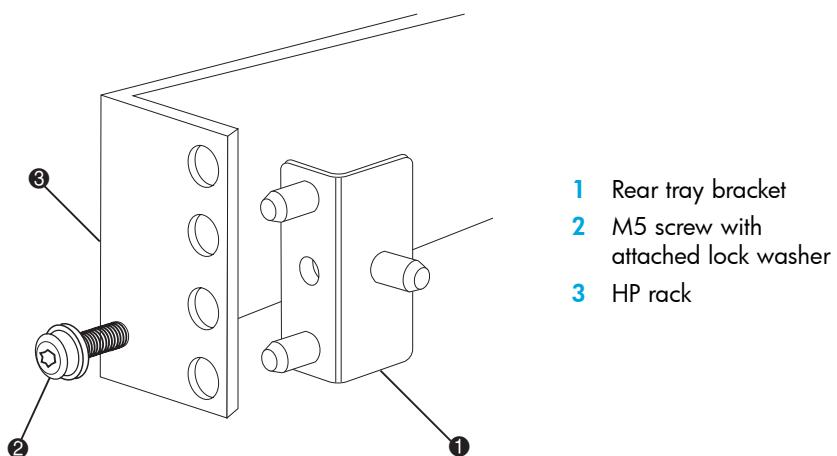

Figure 18 Attaching a rear rail tray bracket
4. Position and attach both rear brackets (Figure 18):